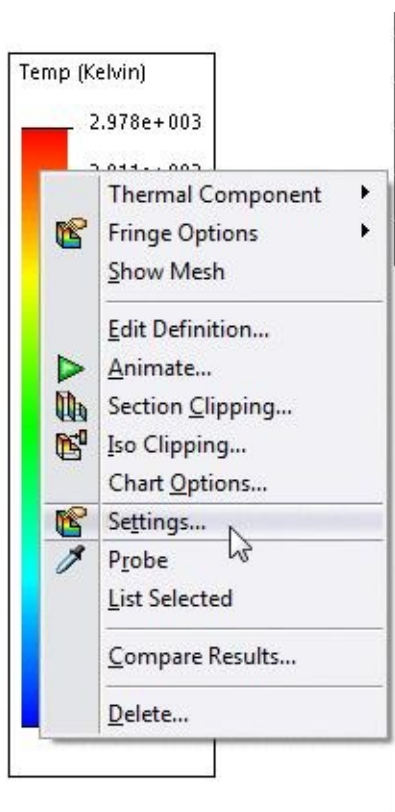

Figure-19. Shortcut menu for temperature scale
- To change the temperature scale, right-click on the Temperature scale at the right. A shortcut menu will be displayed; refer to Figure-19.